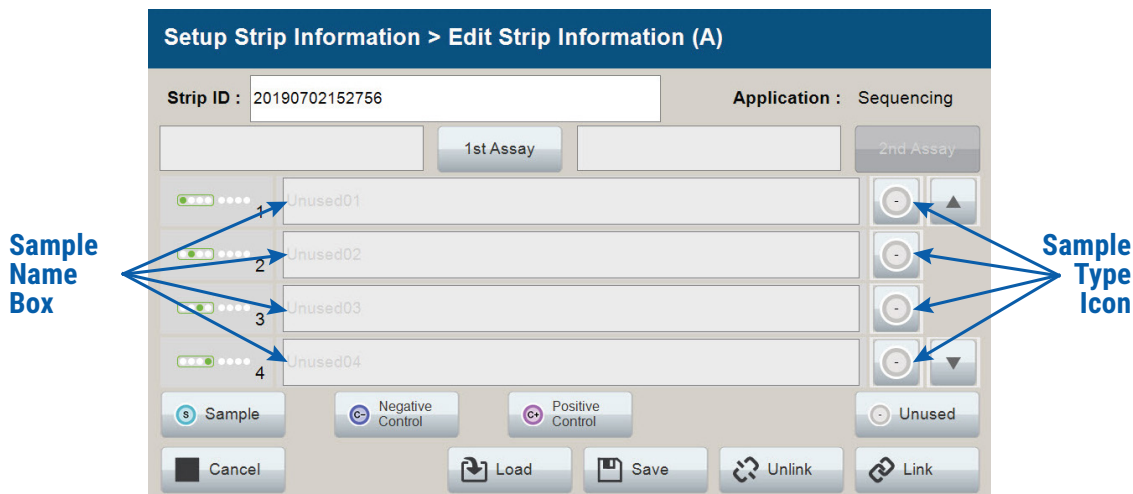

Figure 11. ‘Edit Strip Information’ screen.
2. Select a lane icon (A, B, C or D) to enter information for that 8-well strip tube. This opens the ‘Edit Strip Information’ screen for that lane (Figure 11). This screen displays fields for defining the Strip ID, run assay, sample name and sample type for that lane. Each well in the strip is represented along the left side of the screen. The first injection set of the strip (wells 1–4) is displayed on the screen. You can use the arrows on the right side of the screen to scroll to the second injection set (wells 5–8).